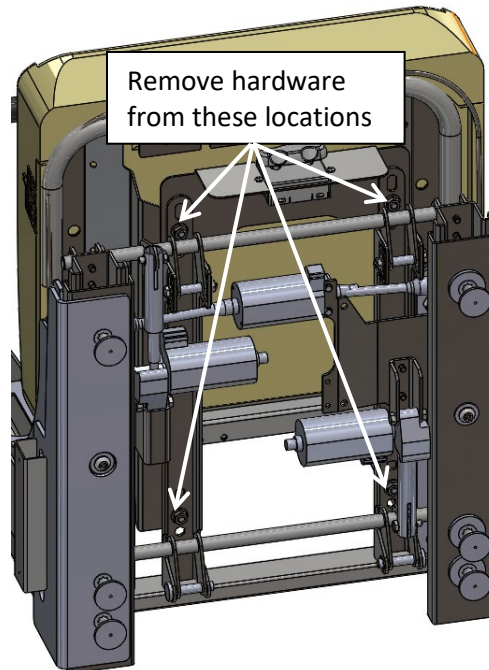

Figure 1 – Underside of seat
3. Remove hardware that attaches seat cushion assembly to the full frame. See Figure 1 for bottom view of seat. Remove seat cover and foam from seat frame. Discard removed cushion and seat cover.